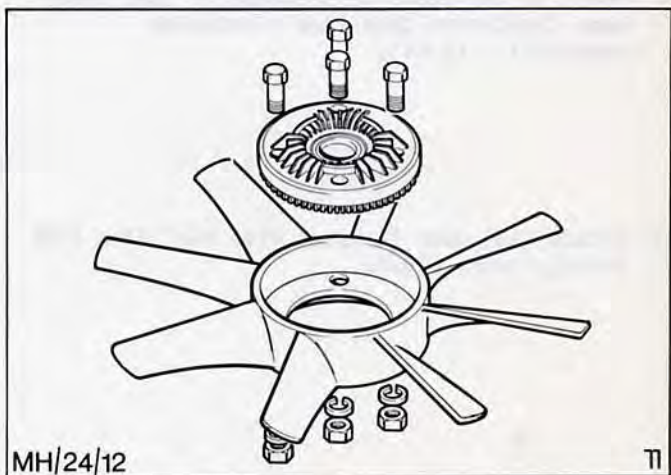

Fig.29. Fan and fluid coupling.
4. Remove alternator with bracket (4 bolts) and detach the drive belt. Undo centre fixing bolt and remove fan with coupling, Fig.29, and unbolt driving hub with belt pulley (4 bolts).